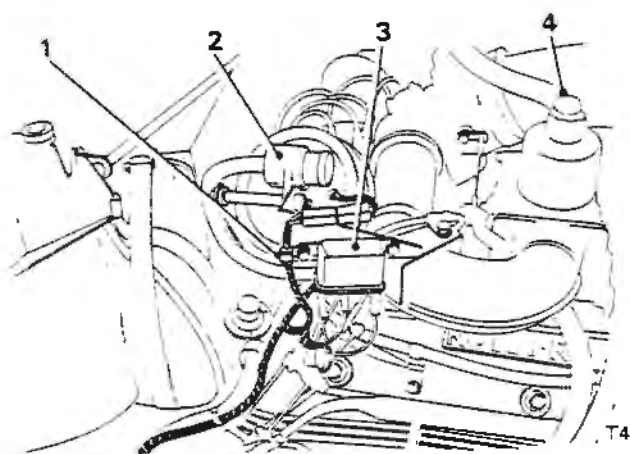

Figure 3 - Fitting Relay to Servo Bellows Bracket
- 12 Disconnect the 'Black/Green' wire from the W1 connection of the additional speed control relay. (Refer to Figures 3 and 4 for relay location).